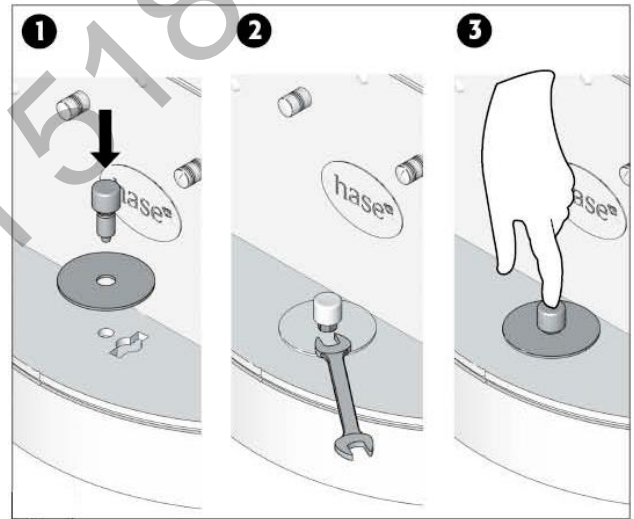

Figure 7: Tighten Mounting Screw
6. Rotate the stove back to the zero position and replace the Control knob (see fig. 7).